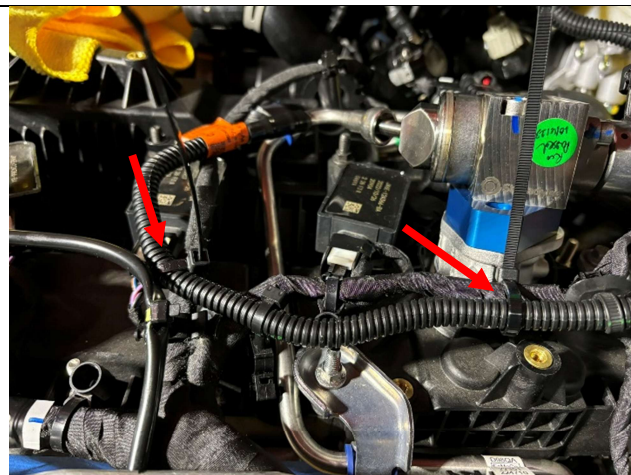

Figure 56
56. Zip tie the low-pressure line to the two points highlighted in *Figure 56* on the engine wire harness.